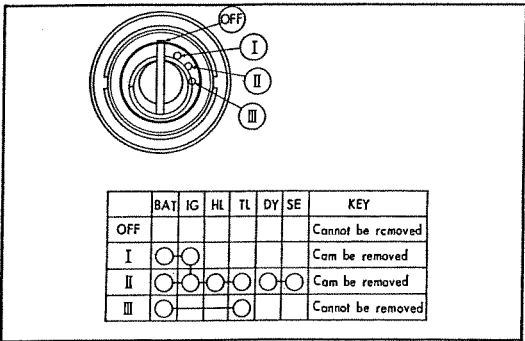

Fig. 5.111 Operation and connection of combination switch
The key is used for both the combination switch and hand lock. It is operated in three steps, as shown in Fig. 5.111.
- Position II The key cannot be removed. Nighttime operating circuit. All electrical units may be operated. (Refer to Fig. 5.111)